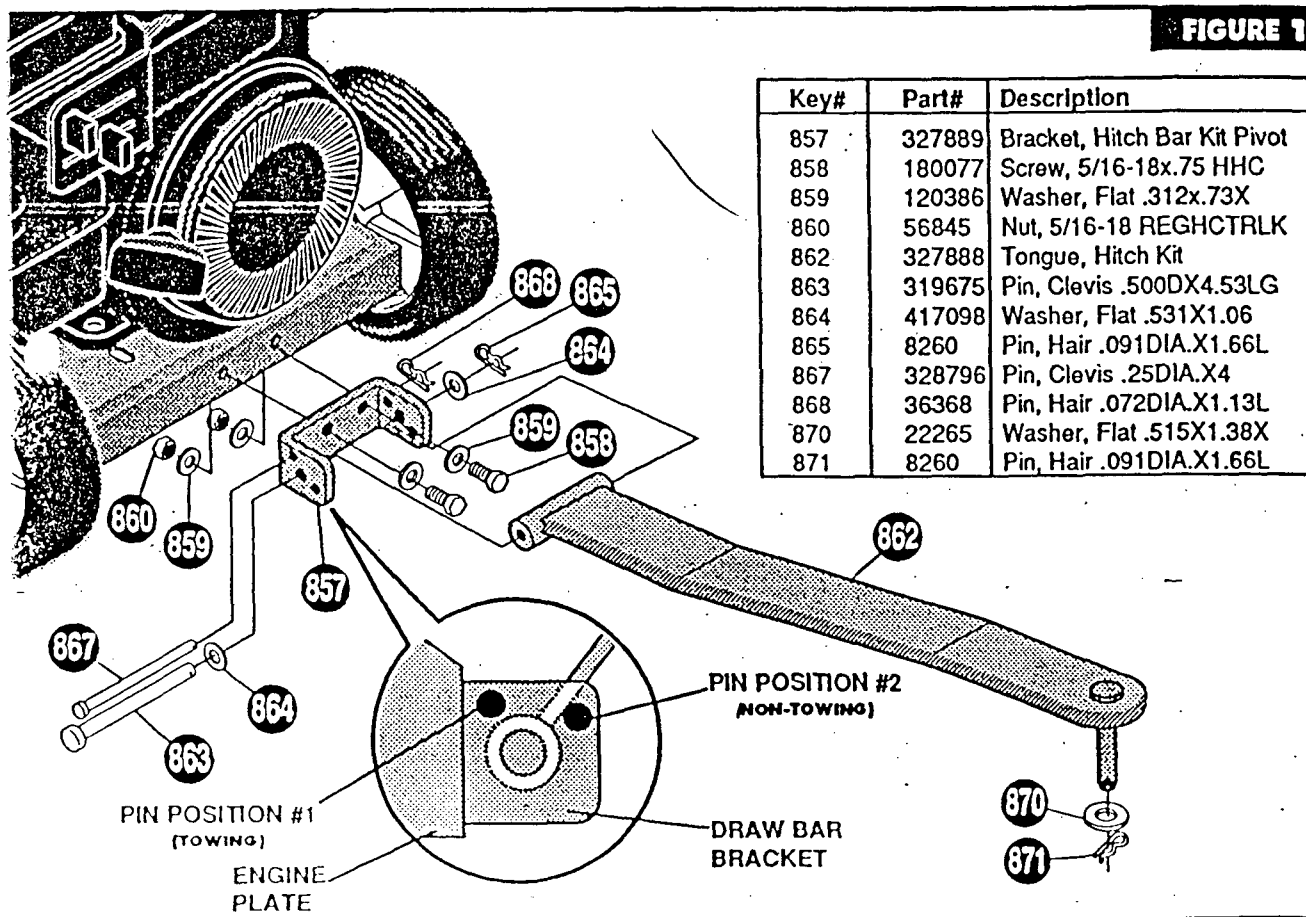

FIGURE 1
- Position pivot bracket as shown in Fig. 1, aligning (2) holes in pivot bracket with (2) holes in front of the engine plate.
- Position tongue (#862) with pin facing downward and away from unit as shown in Fig. 1.
- Attach tongue to pivot bracket using clevis pin (#863), flat washers (#864) and hair pin (#865) (See FIG. 1).
- Install clevis pin (#867) and hair pin (#868) into desired hole position (See FIG. 1). Position #1 is used when towing the Chipper/Shredder. Position #2 is used to support the tongue, when not towing, for normal operation.
- Using a 1/2" wrench, remove four 5/16-18 locknuts (Item C), spring washers (Item B), and one existing leg support (Item A) from the unit. (See Figure 1)
Position pivot bracket as shown in Fig. 1, aligning (2) holes in pivot bracket with (2) holes in front of the engine plate.
Position tongue (#862) with pin facing downward and away from unit as shown in Fig. 1.
Attach tongue to pivot bracket using clevis pin (#863), flatwashers (#864) and hair pin (#865) (See Fig. 1).
- Install clevis pin (#863) and hair pin (#865) into desired hole position (See Fig. 1). Position #1 is used when towing the Chipper/Shredder. Position #2 is used to support the tongue, when not towing, for normal operation.